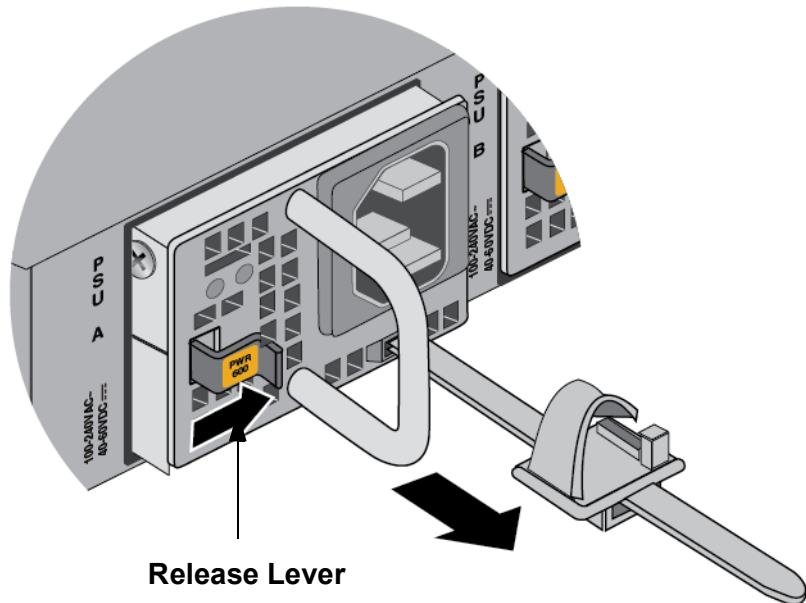

Figure 132. Removing the Power Supply
6. Press the release lever to the right and pull on the handle to release the power supply from the internal connector in the switch. Refer to Figure 132 on page 191.